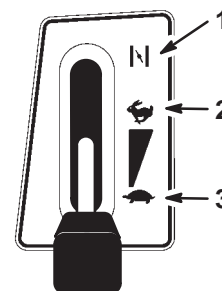

Figure 9
5. Move the throttle lever to Choke (Fig. 9).
7. After the engine starts, slowly move the throttle lever to Fast (Fig. 9). If the engine stalls or hesitates, move the throttle lever back to Choke for a few seconds. Then move the throttle lever to Fast. Repeat this as required.
1. Move the throttle lever to Slow (Fig. 9).